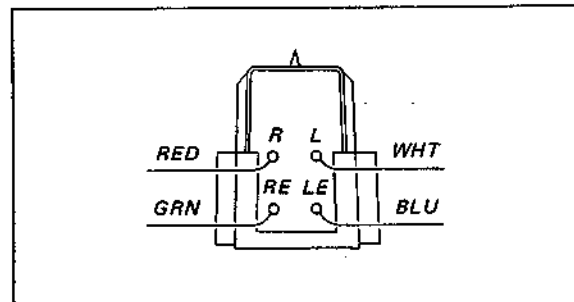

Fig. 2-15. Wiring diagram of cartridge
4. Remove the defective cartridge, and install the new cartridge. Refer to the wiring diagram shown in Fig. 2-15, when installing it.